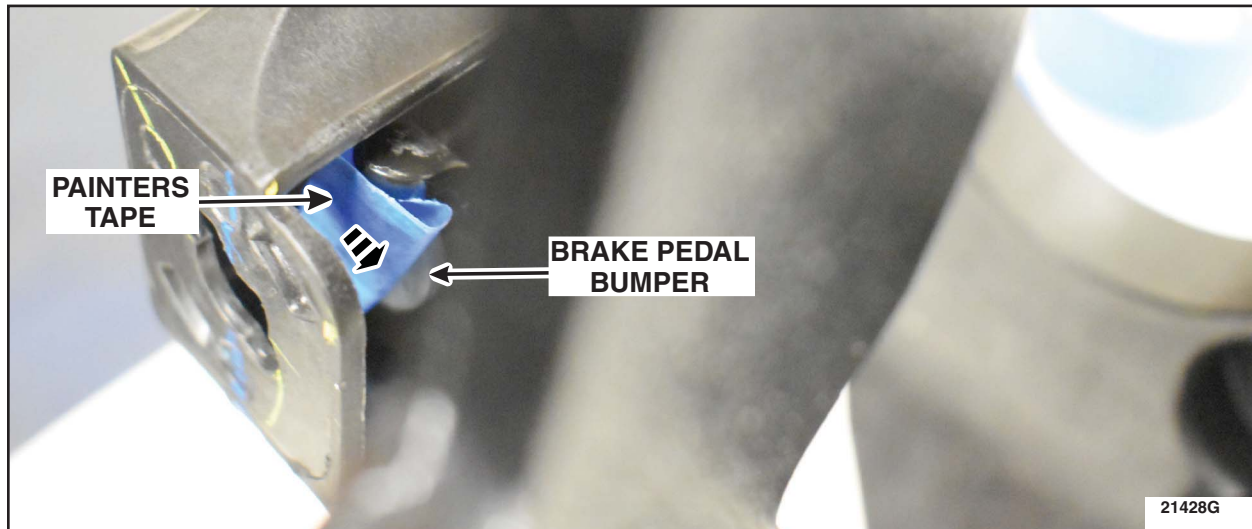

FIGURE 6
5. Remove the painters tape from the **new** brake pedal bumper. See Figure 6.